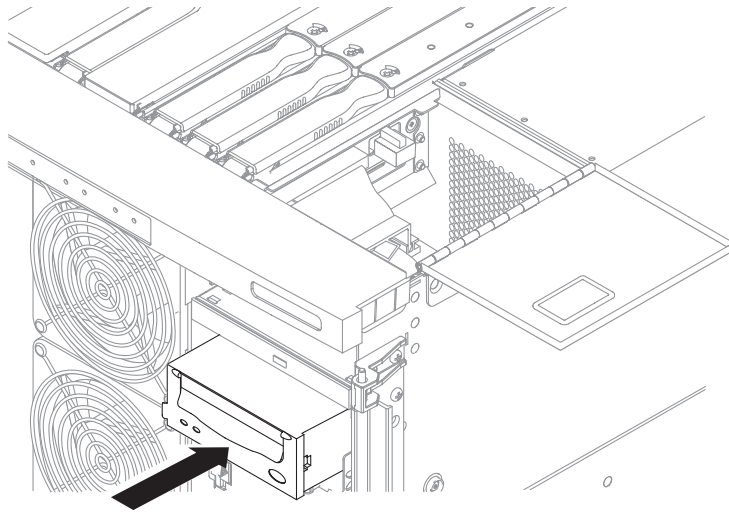

FIGURE 6-13 Inserting a Tape Drive Into the System
7. Install the new drive. Insert it into the system until the metal latch on the left side engages (FIGURE 6-13).